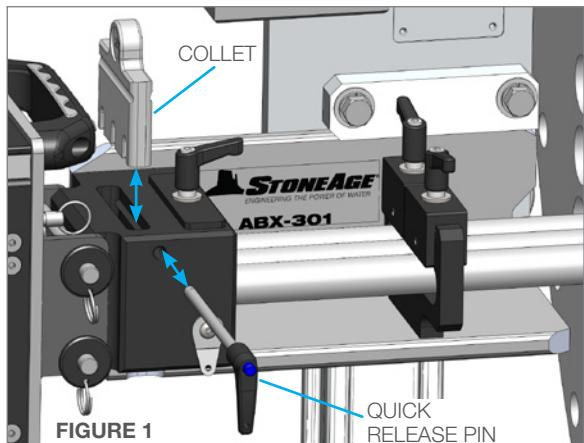

FIGURE 1
1. Remove Quick Release Pin and pull out existing Collet. Select the appropriate Collet size for the diameter of the hoses. (See the "Recommended Collets For Common Hose Sizes" plaque on the top plate of the AUTOBOX® (ABX-3L) Hose Tractor.) (**Figure 1**)